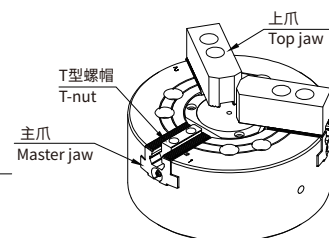

Fig.9
- 工作物必須夾持於行程的中點位置，或在中點以內，這樣將可達成最好的精度及穩定度，儘量防止用行程的盡端來夾持工作物。(Fig.9)
- It is the most desirable that the workpiece is gripped at mid stroke of the master jaws. To grip the workpiece correctly, avoid gripping at stroke end. (Fig.9)